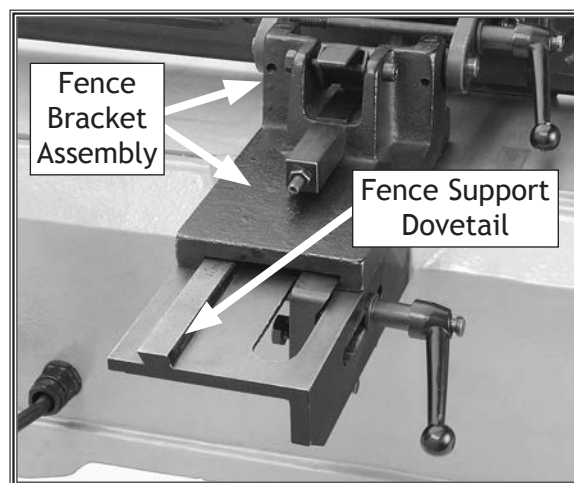

Figure 13. Sliding the fence bracket onto the fence support dovetails.
- Slide the fence bracket assembly over and onto the dovetail of the support and locking plate, as shown in **Figure 13**.